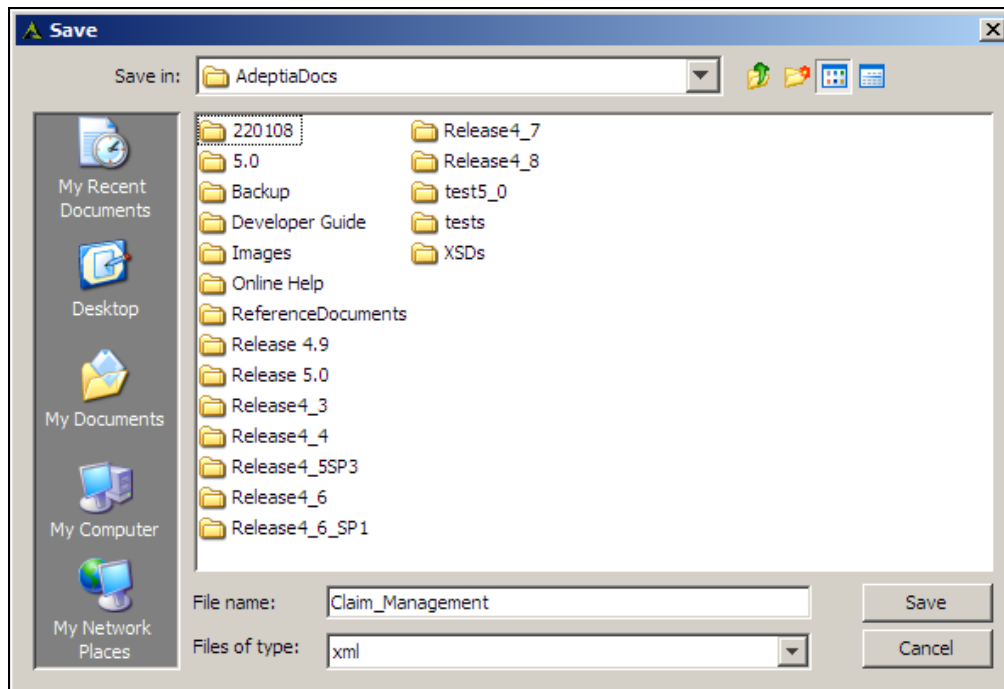

Figure 23: Save Process Model
1. Click **File** menu and select **Save Process Model Locally** option. The Save window is displayed (see Figure 23).